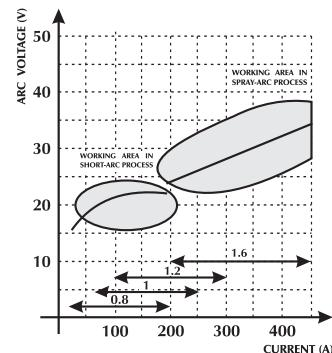

Fig.2 Diagram for selection of the best working characteristic.
- The wire feeding speed is proportional to the welding current. Fig.2 and 3 show the relationships between the various welding parameters.